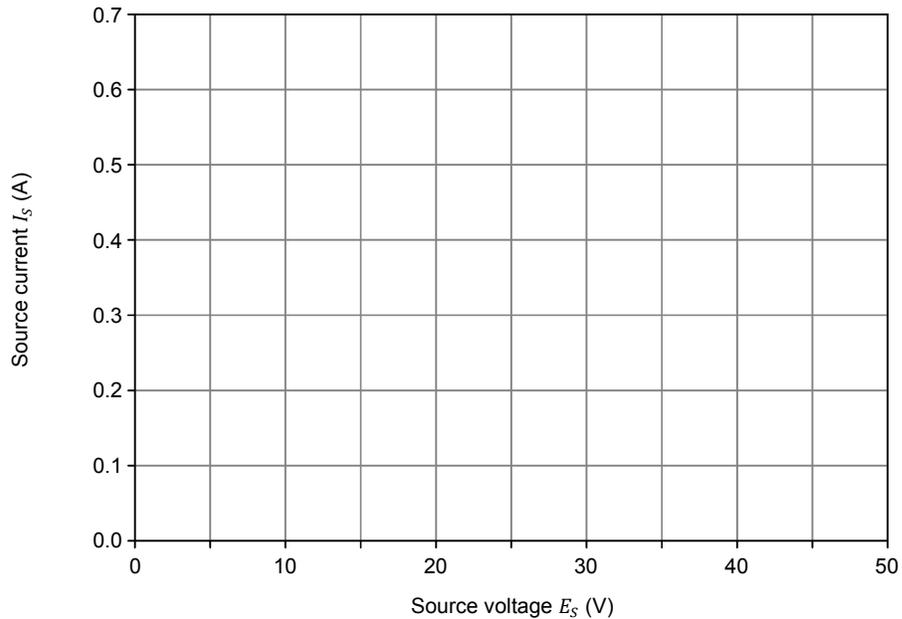

Figure 14. Source current I_S as a function of the source voltage E_S .
10. From the results recorded in Table 1, plot in Figure 14 the source current, I_S , as a function of the source voltage, E_S .